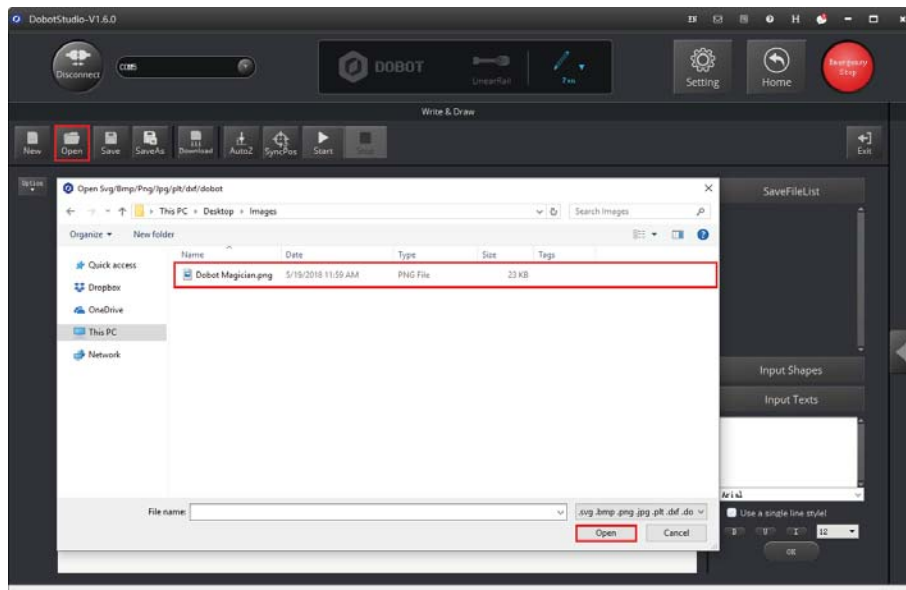
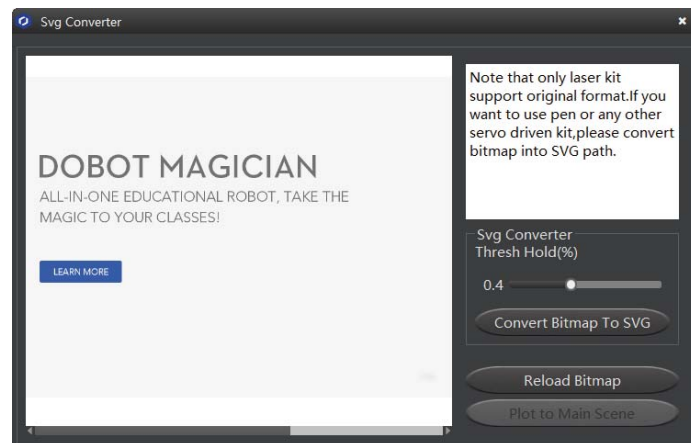

Figure 5.50 Import an image
Figure 5.51 Convert an image to SVG
- Click **Open** to import an image file such as BMP, JPEG, or PNG to convert this image to its corresponding SVG file that the DobotStudio supports, as shown in Figure 5.50. Once this image is imported, the **SVG Converter** dialog box is displayed, as shown in Figure 5.51. In this dialog box, drag the slider to set the black and white threshold, and click